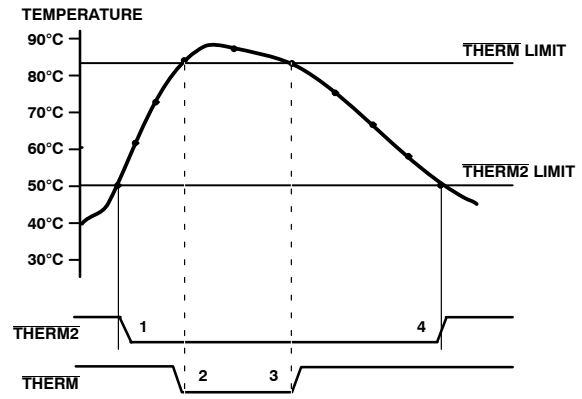

**Figure 19. Operation of the  $\overline{\text{ALERT}}$  and  $\overline{\text{THERM}}$  Interrupts**
Figure 19 shows how the  $\overline{\text{THERM}}$  and  $\overline{\text{ALERT}}$  outputs operate. The  $\overline{\text{ALERT}}$  output can be used as an SMBALERT to signal to the host via the SMBus that the temperature has risen. If the temperature continues to increase, the  $\overline{\text{THERM}}$  output can be used to turn on a fan to cool the system. This method ensures that there is a fail-safe mechanism to cool the system, without the need for host intervention.
- The  $\overline{\text{THERM}}$  output deasserts (goes high) when the temperature falls to  $\overline{\text{THERM}}$  limit minus hysteresis. In Figure 19, the default hysteresis value of 10°C is shown.